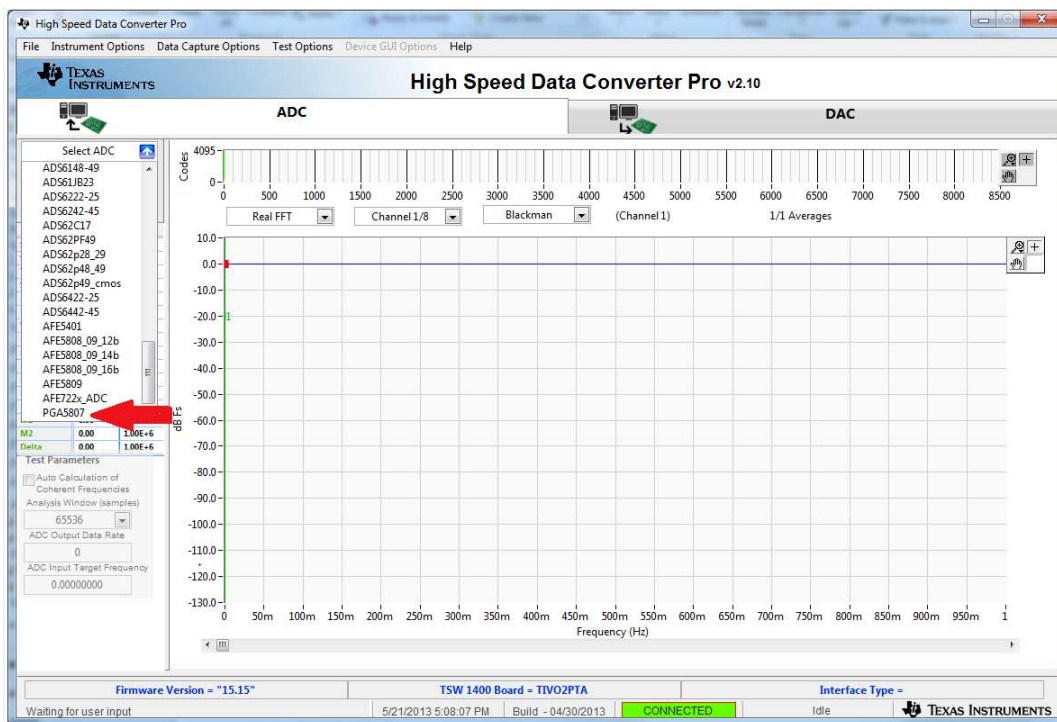

Figure 25. TSW1400 GUI Setup (d) 70
2. Select a device by clicking on the Blue arrow in the upper left corner of the *HSDCpro* GUI. Scroll down and select *PGA5807* as shown in Figure 25.